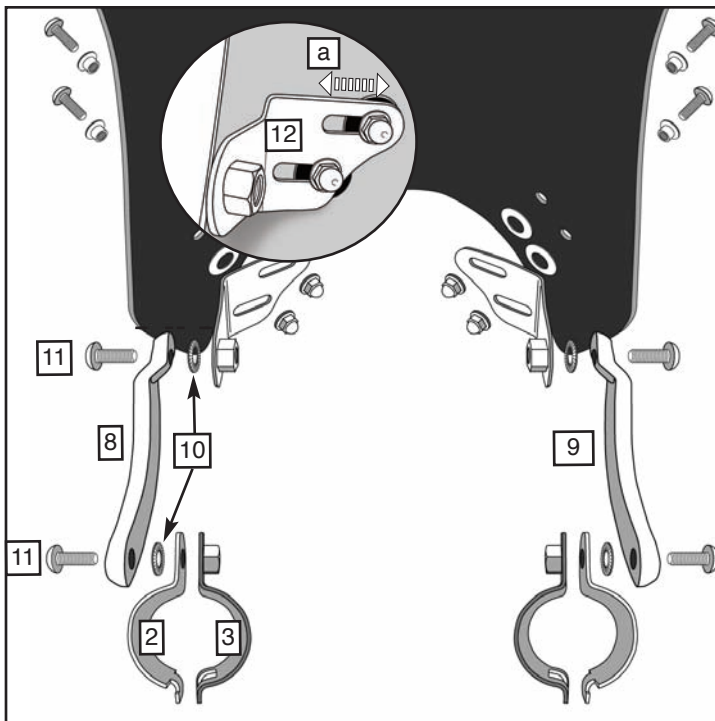

Figure 5
a. Adjustment of Inside Bracket (12)
10. Install the Left Offset Bracket (8) to the Inner Bracket (12) with 1, Serrated Washer (10) and Screw (11). **(6mm Hex Wrench) Figure 5**
11. Repeat on Right side using Right Offset Bracket (9). **(6mm Hex Wrench) Figure 5**
13. Hold Inner Clamp (3) to inside of fork tube, hook Outer Clamp (2) to the Inner Clamp. **Figure 5 and 6**
14. Secure Clamp Assemblies to the Offset Brackets (8 and 9) with remaining M8 Screws (11) and Washers (10). **(6mm Hex Wrench) Figure 5.**